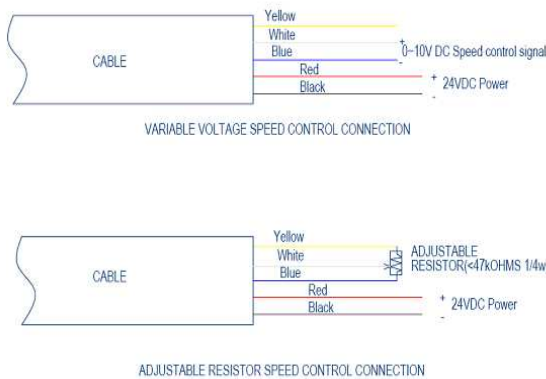

Figure 4 Adjustable Speed Control Connection
- Connect the white to the positive, and the blue to the negative (Figure 4).